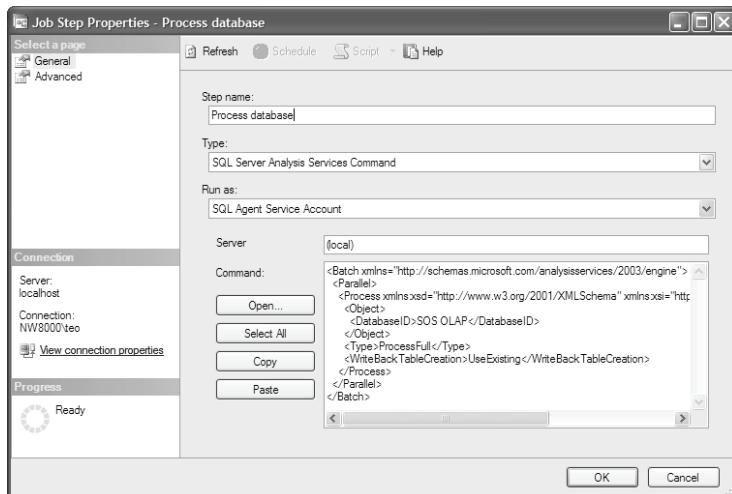

Figure 15.13 Use the SQL Server Analysis Services Command step type to automate script execution.
6. Paste the script you created in step 2 into the Command textbox (Figure 15.13). Click OK twice to create the job.